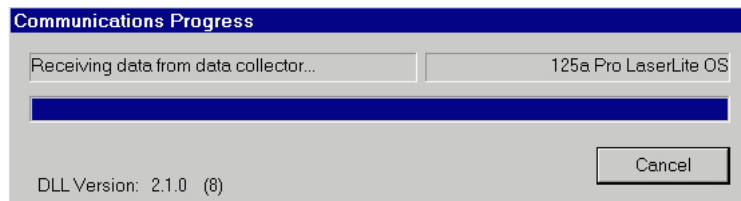

Figure 1-25 Communications Progress Window
34. A window opens during the data transfer process (Figure 1-25) and reports the progress of the transfer.